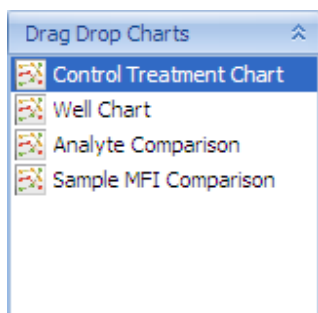

Figure 5.11 Replace the chart by drag & drop
1. Select one of the chart you want to use from the drag drop charts pane (Figure 5.11).